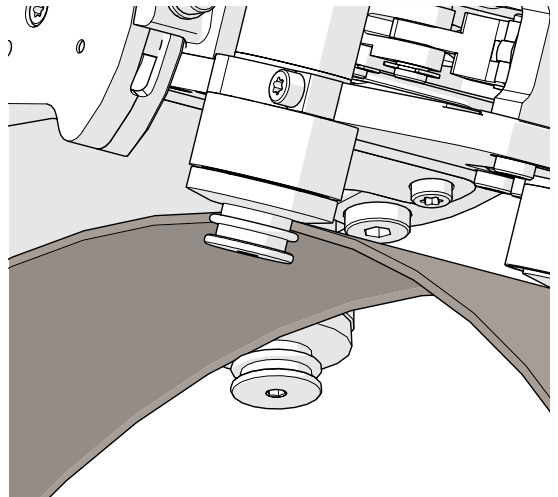

Fig. 53 - Ensure rollers are correctly positioned
3. When mounting the carriage to a band, ensure that the outer band is positioned in the top groove of the idler wheels (Fig. 53).